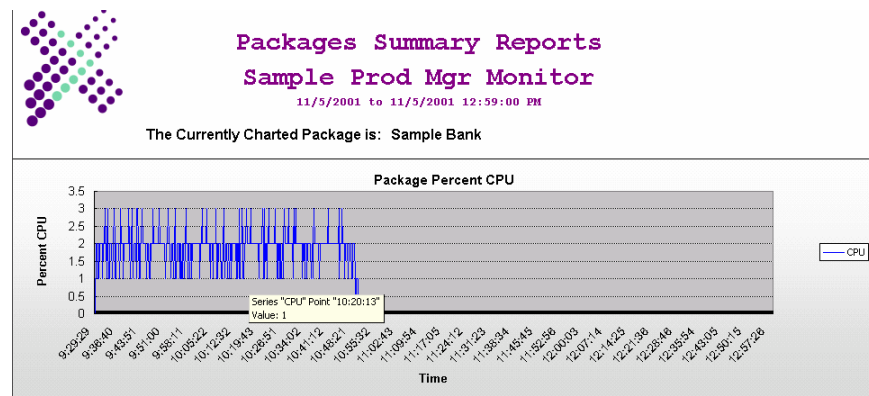

Figure 9
10. The next report to view is the **Packages/Applications Report** (see Figure 9).